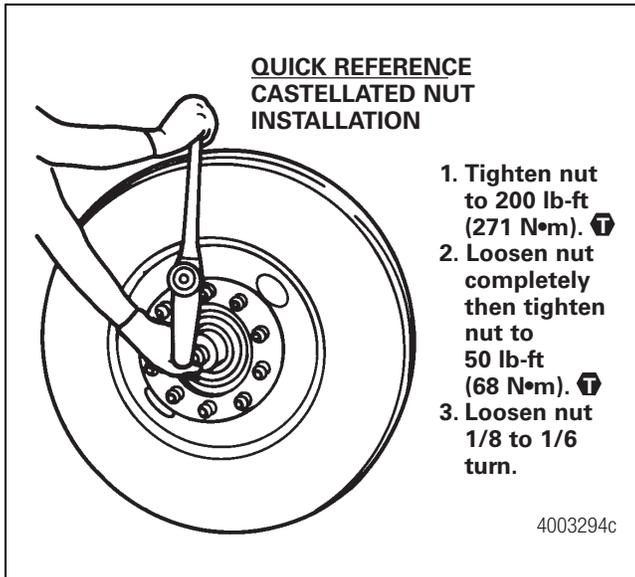

Figure 10.13
1. Install the washer and castellated nut. Tighten the nut to 200 lb-ft (271 N•m) while rotating the wheel end in both directions. Figure 10.13. ⚠